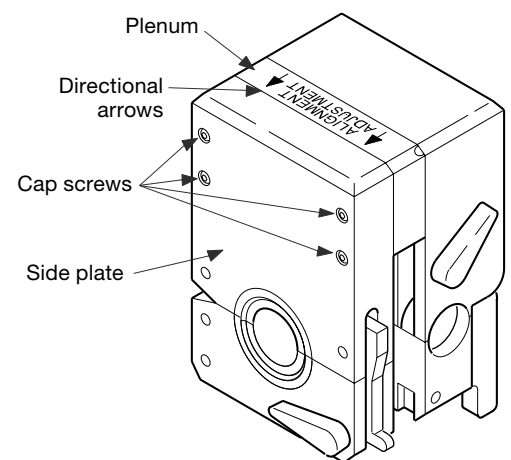

Figure 17 Loosening the Side Plate
1. Turn the fixture block over and locate the directional arrows on the plenum. The arrows point to the appropriate side plate. See Figure 17.
2. Using the provided 3/32 in. hex wrench, unscrew the four cap screws in the appropriate side plate just enough to loosen it from the plenum. See Figure 17 to locate the appropriate side plate.